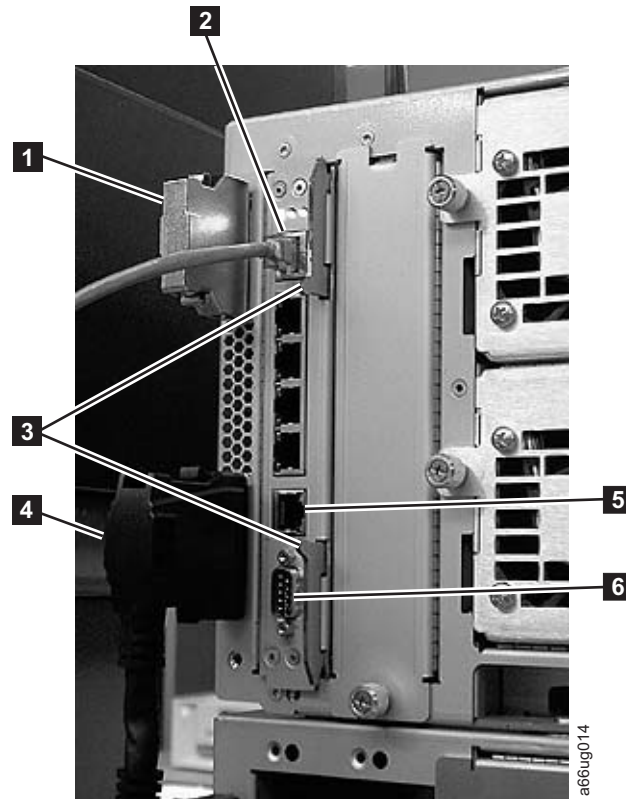

Figure 12-30. Library Control Blade (LCB)
2. Grasp the pair of latches near the top and bottom of the LCB (**3** in Figure 12-30 on page 12-33) by pushing them in until they click into place.
3. Reconnect the Ethernet cable (**2** in Figure 12-30) by pinching the tab and pushing the connector into the LCB.
Note: Six slots reside below the Ethernet cable. The four topmost slots are reserved for future use. The two bottommost slots are designated as Ethernet (**5** in Figure 12-30) and serial (**6** in Figure 12-30) ports, and are reserved for use by IBM Service Personnel.